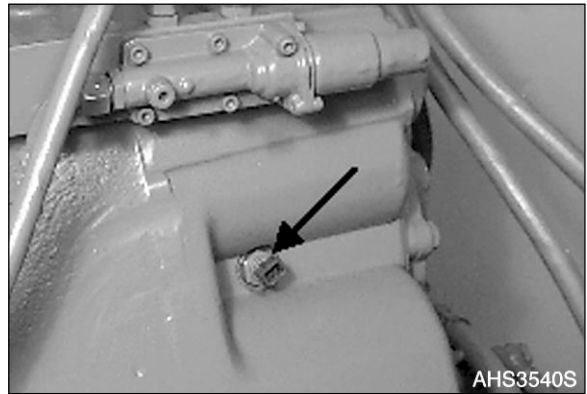

Figure 409
F. Install inductive transmitter N-Engine (14), see Figure 409.